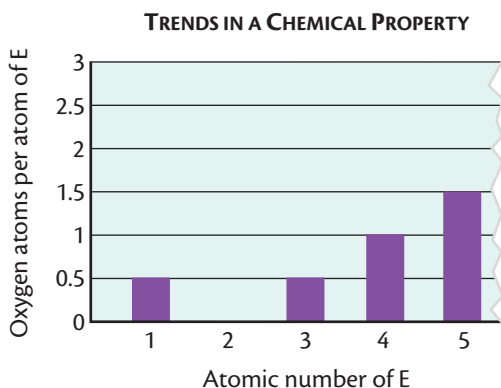

Figure 7 Sample bar graph for oxide data.
4. Construct a bar graph, as demonstrated in Figure 7, by plotting the oxide data from the element cards. For example, if no oxide forms, the height of the bar will be 0 because oxygen atoms do not form a compound with atoms of E. If E_2O (1 oxygen atom for 2 E atoms) is formed, the height of the bar is 0.5, which is the number of oxygen atoms for each E atom in the compound.